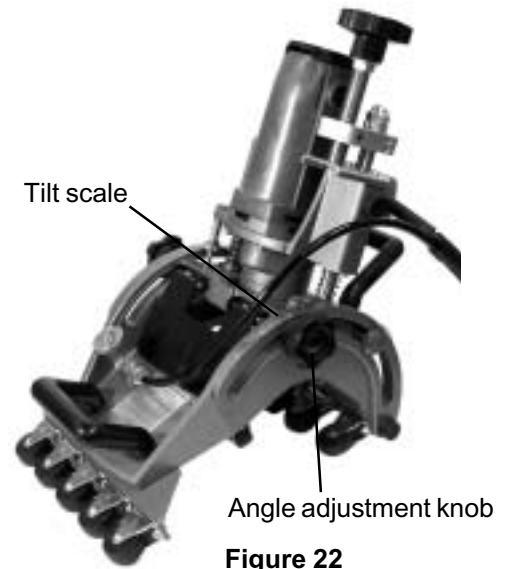

Figure 22
3. Tighten the knobs on both sides of the guide securely. (See figure 22)